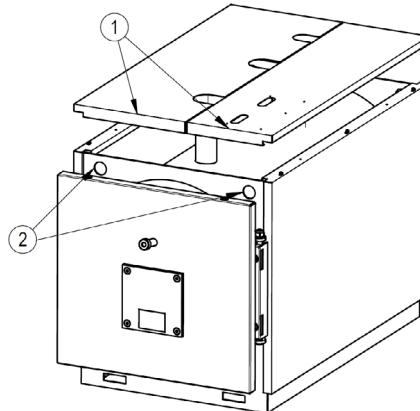

fig. 5
5.2.1 For models MEGAPREX 92N÷600N (Fig. 5)